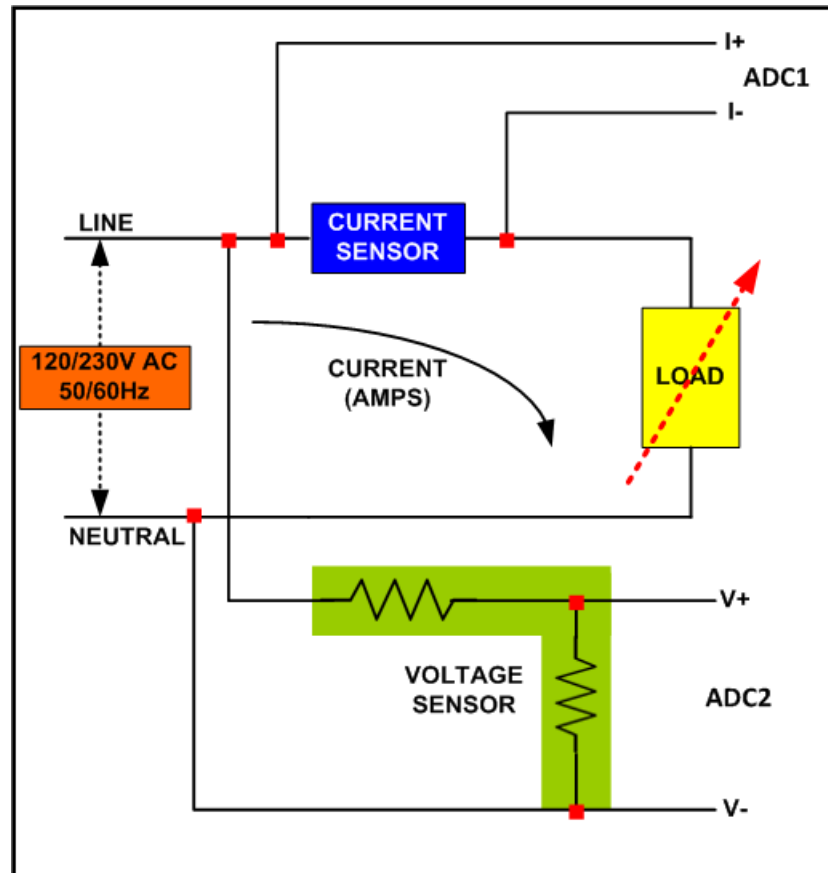

Figure 1. Typical Per-Phase Connections Inside an Electronic Meter
Figure 1 shows typical connections for one-phase electronic electricity (energy/e-) meters in real life applications. For poly-phase meters, the connection in **Figure 1** is duplicated for each phase. The ac voltages supported are 120 V/230 V at 50/60 Hz with the associated currents. The labels Line (L) and Neutral (N) are interchangeable and are indicative of ac mains voltage source from the energy utilities.